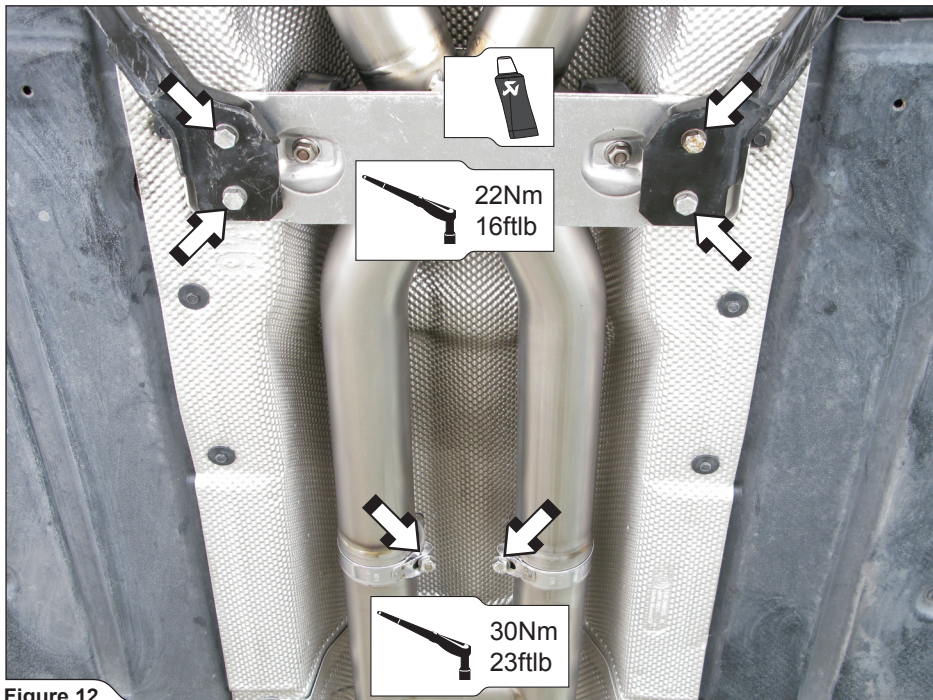

Figure 12
5. **For Evolution:** slide the middle pipes all the way onto the front pipes and tighten the stock bracket and clamps to a specified torque (**Figure 12**).